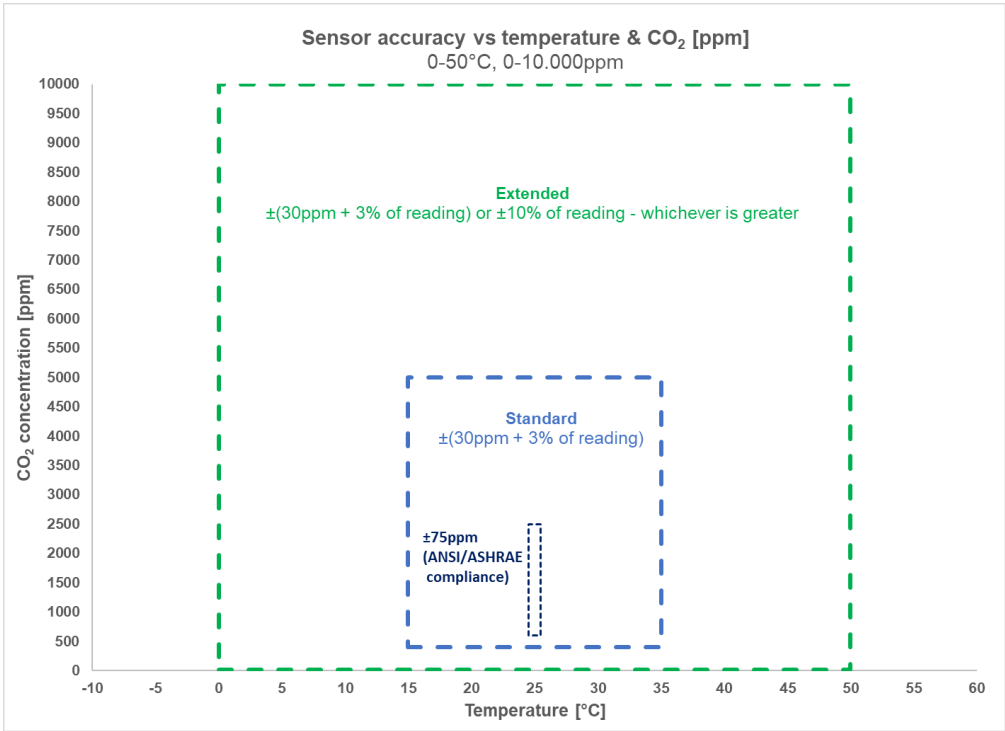

Figure 3 Accuracy over complete operating range (temperature and measurement range of CO₂)
- Note 2: Addendum ab to ANSI/ASHRAE Standard 62.1-2022 specifies sensor to be accurate within ±75ppm at concentrations of 600, 1000, and 2500ppm when measured at sea level at 77 °F (25 °C). See Figure 3.